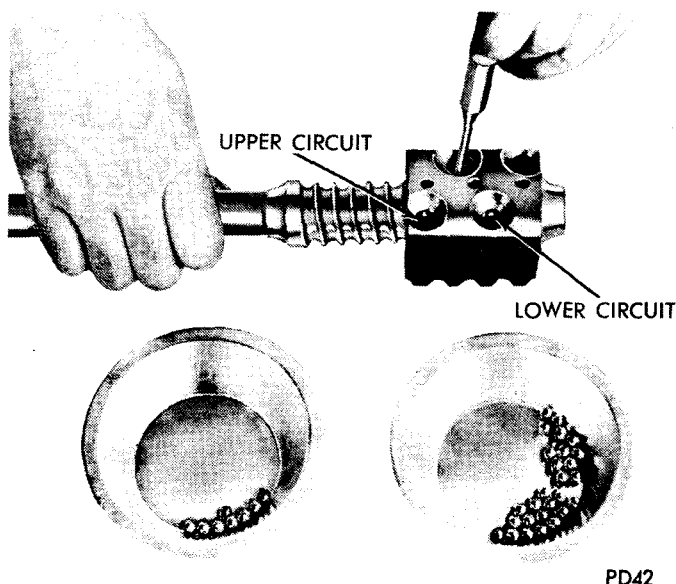

Fig. 7—Filling Ball Circuit (Closed Type)
(1) Remove screws and ball retaining clamp. Remove guides from nut.
(2) Invert the nut, rotate wormshaft in both directions to permit the balls to drop out. (Make sure work area is clean.) Having removed all of the balls, remove the nut from the wormshaft.
(3) Wash parts, using cleaning solvent and dry with compressed air. Using a magnifying glass, inspect parts for defects. Check the ball guide ends for damage. Replace defective parts.
(4) Hold the ball nut with the helical grooved bore in a horizontal position and the ball guide holes up. Have the shallow side of the rack teeth toward the left as viewed from the steering wheel related end. Insert the wormshaft, aligning the wormshaft grooves with the grooves in the nut.
(5) Count 27 balls, number of balls for one circuit, into a clean container. Place 20 of these balls into one of the guide holes. It may be necessary to push them in with the aid of a pin punch (Fig. 7).